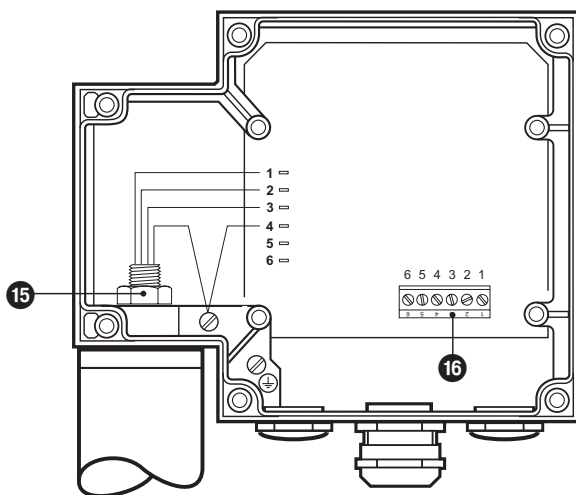

Fig. 16
3. Slacken the nut **15** using a size 19 open-ended wrench. Do not unscrew completely! **Fig. 16**